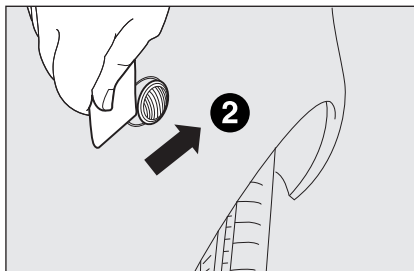

fig. 16b
- ☐ then lever in the opposite direction, by applying force from the back part (**2**-fig. 16b) and remove unit **B**